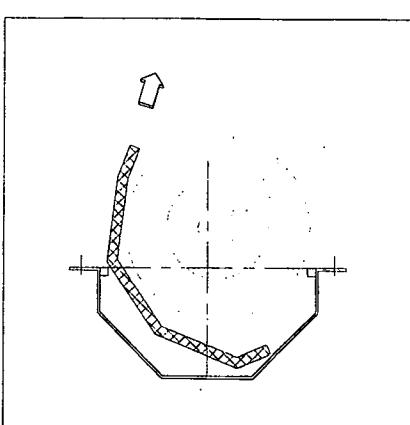

Figure 5.2d - Pulling Out the Liner
5. Take hold of the liner and pull it out (see fig 5.2d).